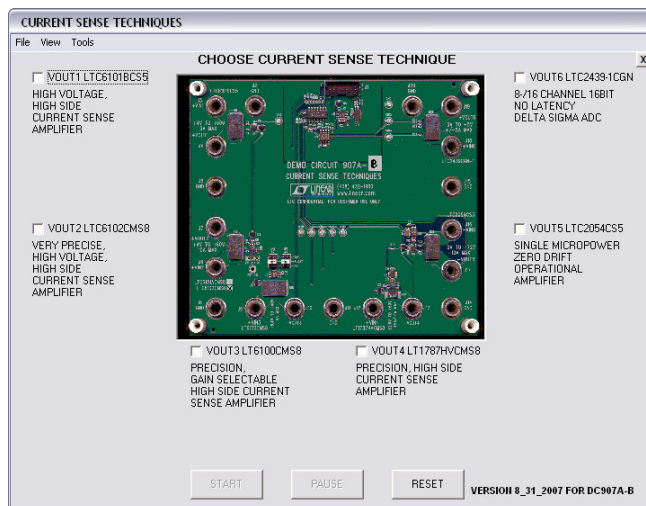

Figure 2. IsenseB.exe Startup Window when the DC907A-B Current Sense Demo Board is Properly Connected.
3. Connect DC907 J1 to the DC590B USB Controller J4 using the supplied 14-wire ribbon cable. Start the IsenseB.exe application and the user screen for the DC907 will appear as shown in Figure 2. The application will automatically abort if either of the DC590B cables are not connected or the DC907 version does not correspond correctly with the application.